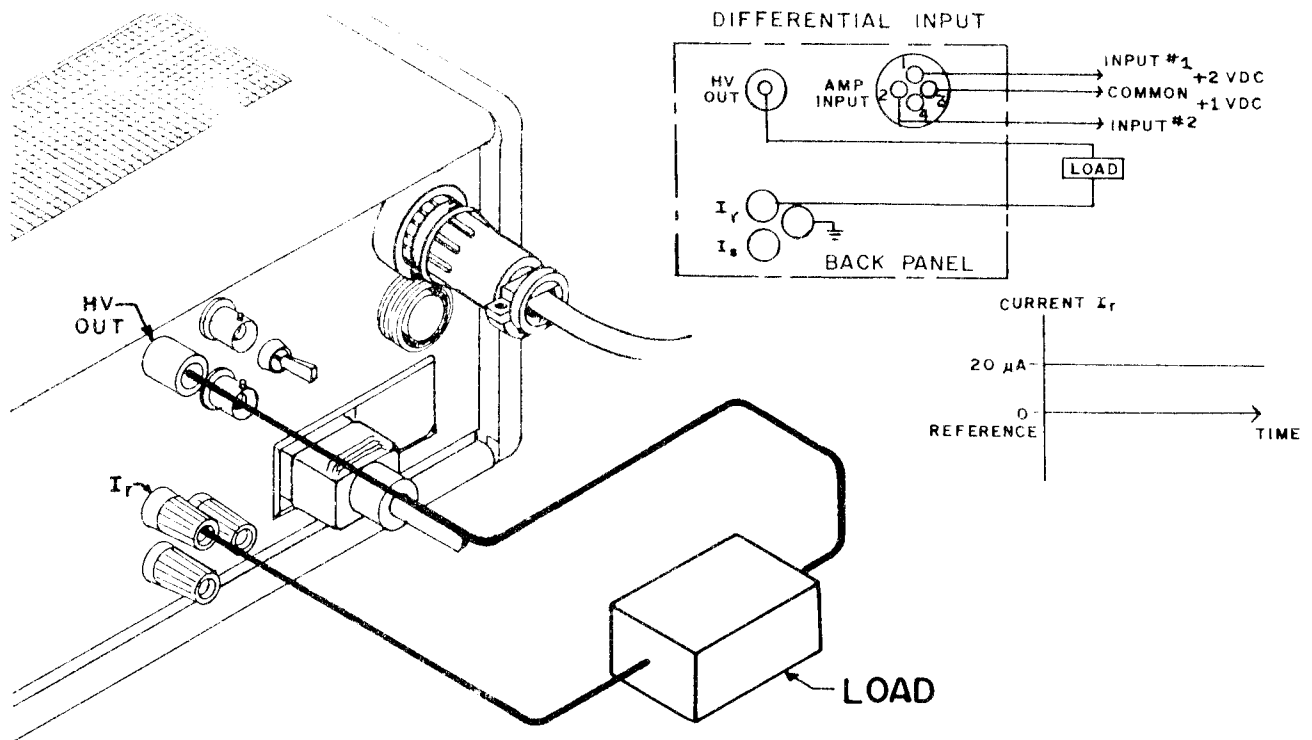

Figure 67. Example of Rear Panel Connections
b. At the rear panel, make the connections (see Figure 67):